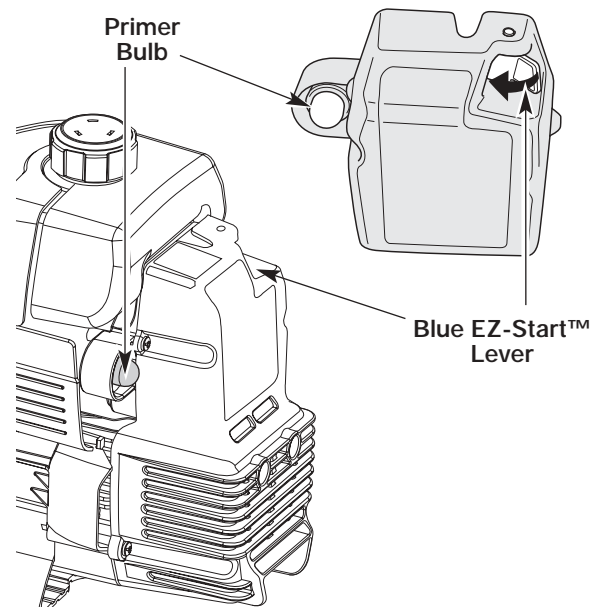

Fig. 7
3. Fully press and release the primer bulb 10 times, slowly. Some amount of **fuel should be visible in the primer bulb** and fuel lines (Fig. 7). If you can't see fuel in the bulb, press and release the bulb as many times as it takes before you can see fuel in it.
4. **Push the blue EZ-Start™ lever towards the primer bulb** until it clicks and locks into place (Fig. 7).